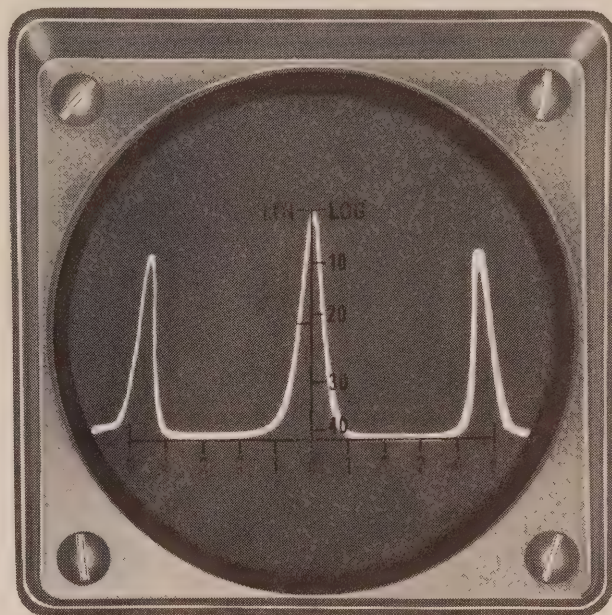

Figure 12
After the above adjustment, if there appears to be a considerable amount of ripple on both sides of the pip, or there are side pips such as shown in Figure 12 (with an unmodulated input signal), a possible cause is the neon lamp voltage regulator (NE-83-A). Refer to Pictorial 5, fold-out from Page 21, and interchange the two leads from lamp FC.
- ( ) Adjust the VARIABLE SWEEP WIDTH control in a counterclockwise direction and observe that the two side tone pips will move towards the edges of the screen. Adjust this control until both side tone pips are over the 5 marks on the base line as shown in Figure 12. Use the PIP CENTER control to keep the carrier signal at the center of the screen.